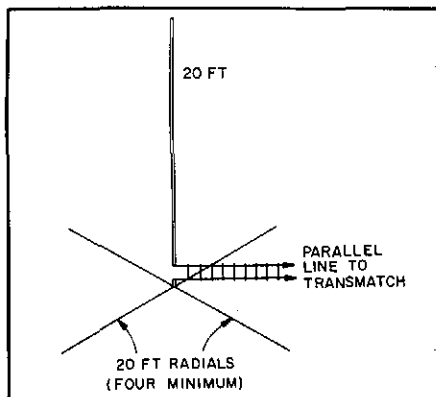

Fig 58—WB6AAM's multiband vertical-monopole antenna. Estimated gains for various amateur bands are shown in Table 5.
□ The antenna in Fig 58 is based on a multiband vertical antenna described by Arthur S. Gillespie, Jr, W4VON, in the eighth edition of *Hints and Kinks for the Radio Amateur*. I have used some alternative construction techniques and greater length to provide better multiband operation than W4VON's original.¹⁸